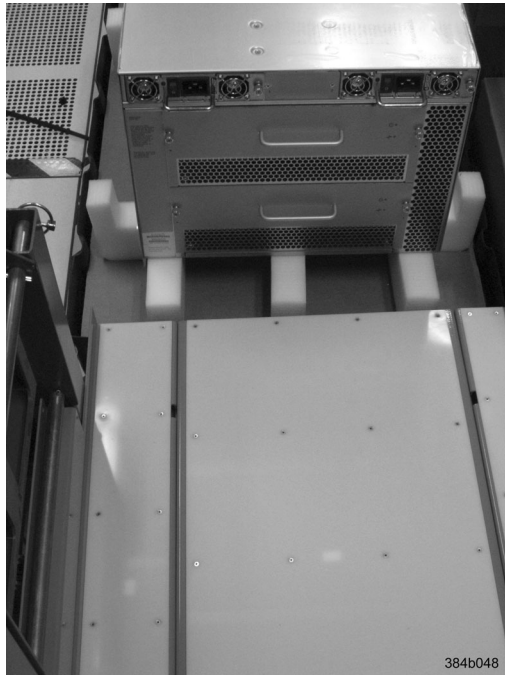

Figure 5. Lift tool positioned next to the chassis on the shipping tray
6. Move the lift tool next to the plastic shipping tray at the blower and power supply end of the chassis. Position the lift tool with its left side next to the shipping tray (see Figure 5).